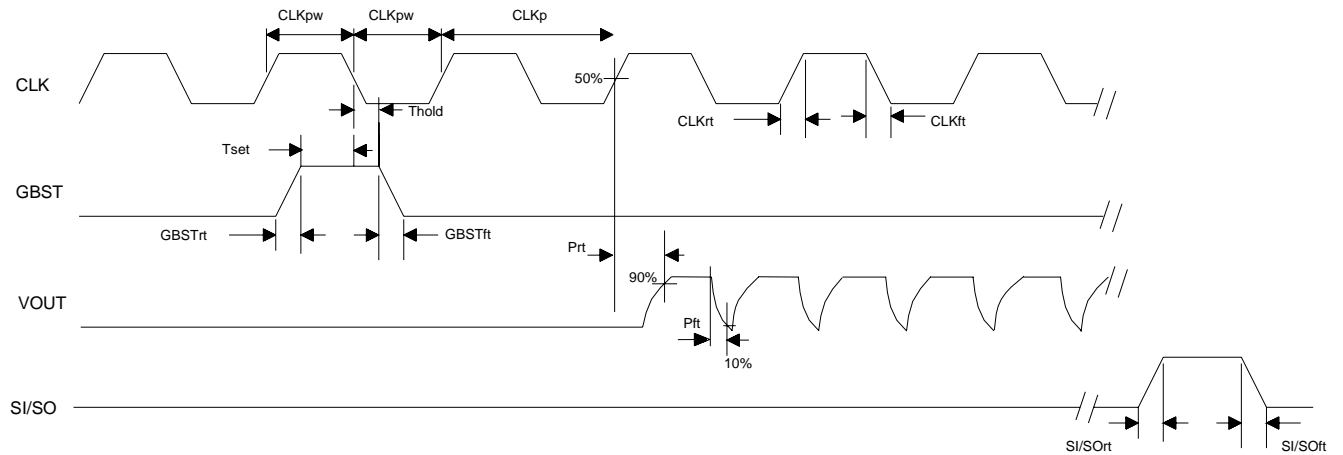
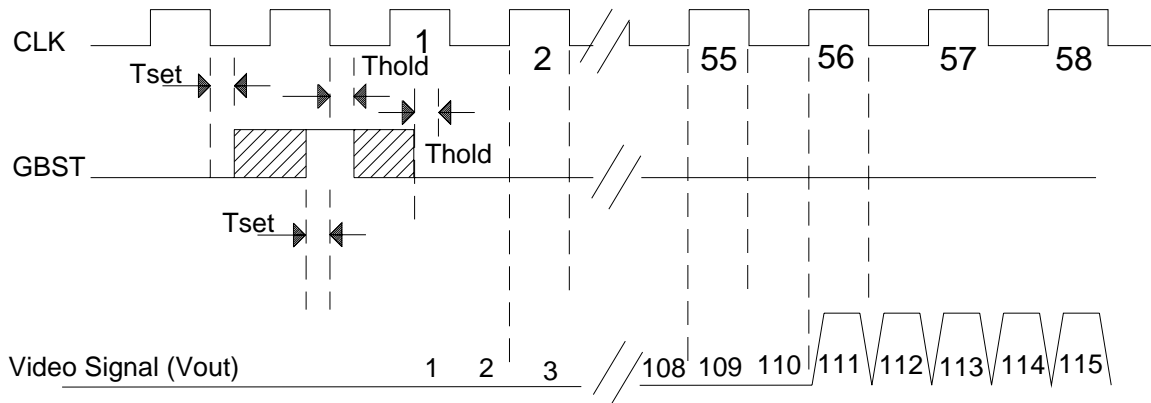

Figure 6. Rise and Fall Times for both the 600/1200 dpi modes
Figure 7. Timing of GBST-to-First Pixel of the First Sensor for both the 600/1200 dpi Modes.
1. The shift register will load on all falling CLK edges, so setup and hold times (Tset, Thold) are needed to prevent the loading of multiple start pulses. This would occur if the GBST remains high during two fallings edges of the CLK signal. See Figure 7 Timing Diagram.
Figures 6 and 7 detail the timing of the CLK, GBST, Vout and SI/SO signals in further detail, which have the same timing requirements for both the 600 and 1200 dpi modes. The rise and fall times are listed in table 5 above. In Figure 7, note that pixel 111 is the first active pixel.